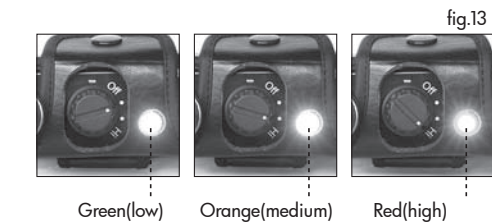

fig.13
- An indication lamp lights up green - orange - or red according to the power level set (fig.13).